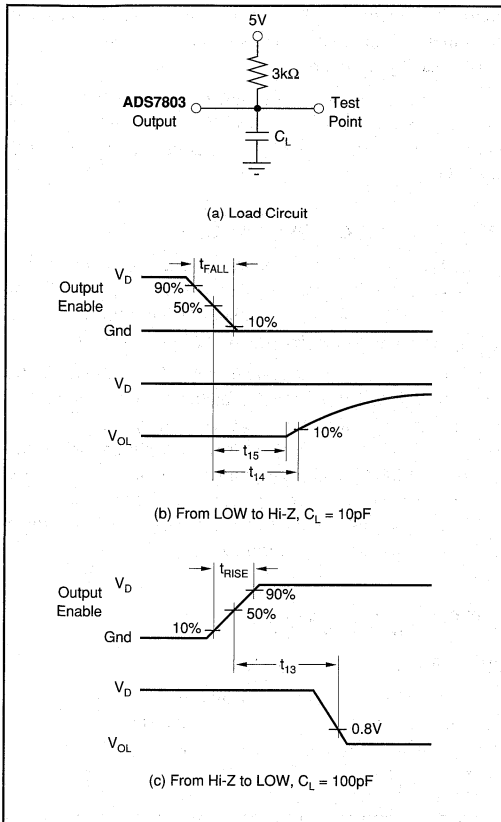

FIGURE 8. Measuring Active LOW to/from Hi-Z State.
NOTES: (1) All input control signals are specified with $t_{\text{RISE}} = t_{\text{FALL}} = 20\text{ns}$ (10% to 90% of 5V) and timed from a voltage level of 1.6V. Data is timed from V_{IH} , V_{IL} , V_{OH} or V_{OL} . (2) The internal RD pulse is performed by a NOR wiring of CS and RD. The internal WR pulse is performed by a NOR wiring of CS and WR. (3) Figures 8 and 9 show the measurement circuits and pulse diagrams for testing transitions to and from Hi-Z states.